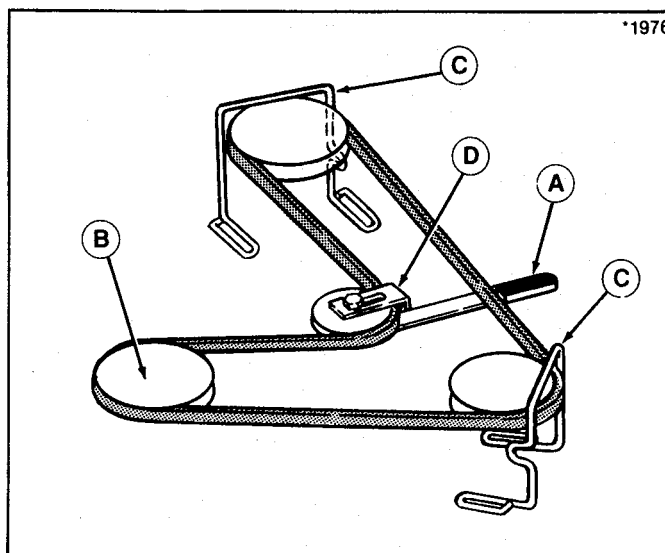

### Figure 24. Drive Belt
11. Lock parking brake to position idler pulley bracket. Install new belt to idler pulleys. Make sure belt is properly routed on flat and V-sided pulleys. Refer to figure 24. Install washers and flange whiz nuts securing pulleys.